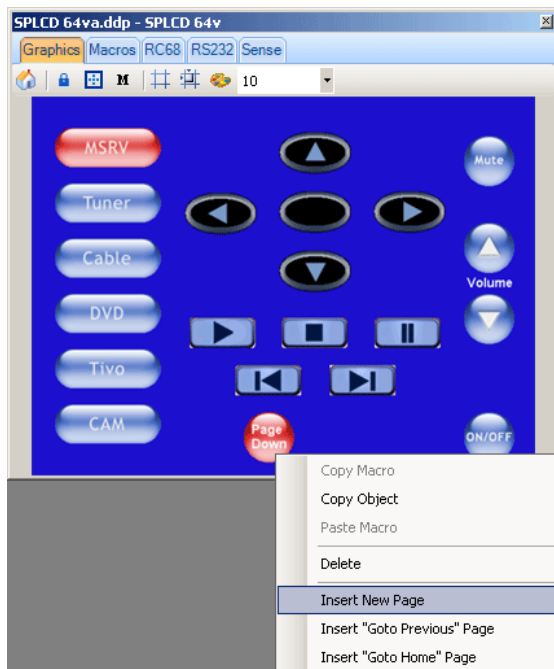

Figure 25 – Insert New Page
3. Right-click on the button from **Step 2** and select **Insert New Page** from the **pop-up**. (**Figure 25**) While programming in **Universal Dragon**, once configured as a '**Go To**' Button, the button can double clicked to navigate as configured, i.e. **Page Down**.